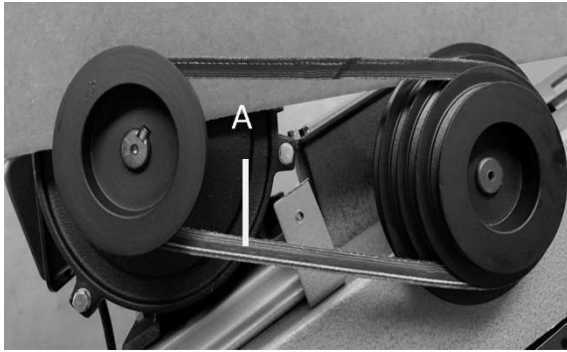

Figure 6-10: installing belt
- e) Install the belt (A, Figure 6-10) on the pulley of the transmission. For speed selection and belt tensioning, see section 8.3 Blade Speed.
- 1) Disconnect machine from power source. Pour coolant into hole through strainer cup. Fill tank to approximately 80% of capacity. Make sure coolant hose is properly connected at each end, and return hose is connected to drain hole and positioned in strainer cup, as shown in Figure 6-10.